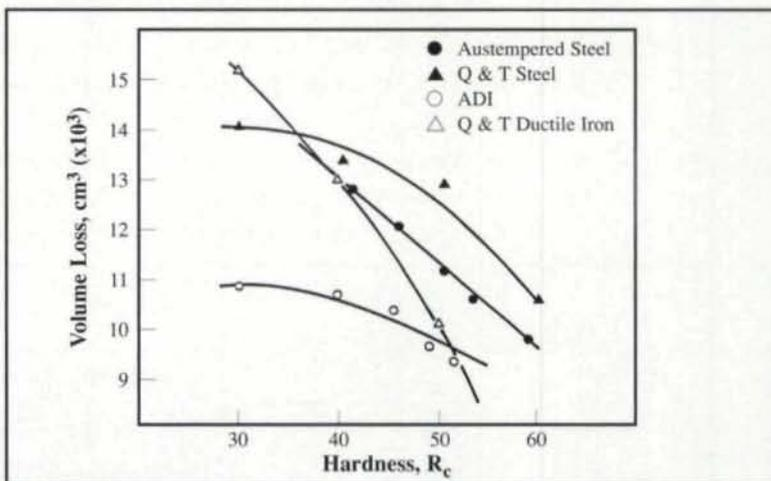

Fig. 5 — Pin abrasion test.
ADI can be produced with hardnesses ranging from approximately 30-50 Rc. As can be seen from Fig. 5, however, the wear resistance of ADI for a given hardness level is superior to that of many conventional materials. In fact, in many applications ADI with 42-46 Rc has replaced 60-Rc carburized and hardened 8620 with equal or better performance.
**Fig. 5 — Relationship between leak rate in a vacuum furnace and decarburization of a 1% C steel strip 0.15 mm (0.006 in.) thick. Treatment time: 2: hours at 1050°C (1920°F).**
**Atmosphere Integrity.** The “atmosphere” of a vacuum furnace, which guarantees neutrality to the surface of the part, is really a vacuum and as such is subject to leakage. For this type of furnace, the greatest variable in atmosphere integrity is its leak rate, which controls the effectiveness of the vacuum. Fig. 5 shows the effect of leak rate on decarburization of a 1% plain carbon steel. However, it is also important